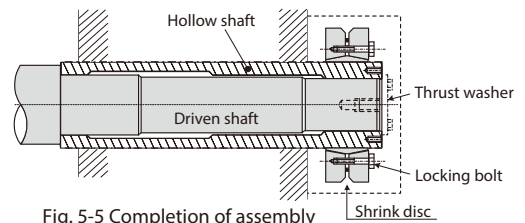

Fig. 5-5 Completion of assembly
2. For a vertical reducer, mount a thrust washer to prevent the reducer from moving when locking nut is loosened. (see Fig.5-5)
(4) Removal procedure